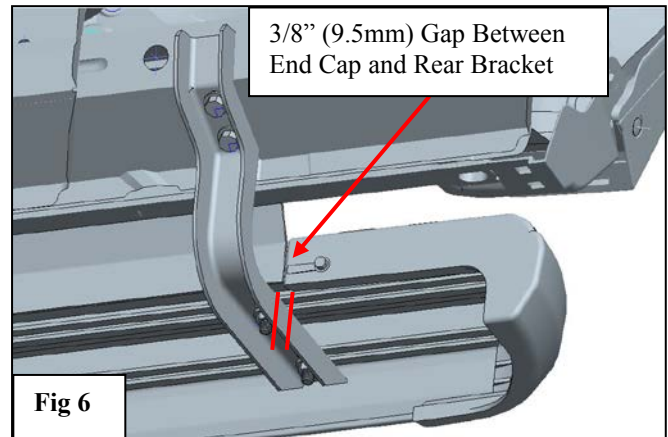

Fig 6
1. **IMPORTANT:** Gap between rear end cap and rear bracket must be 9.5mm (3/8"). Fig 6.